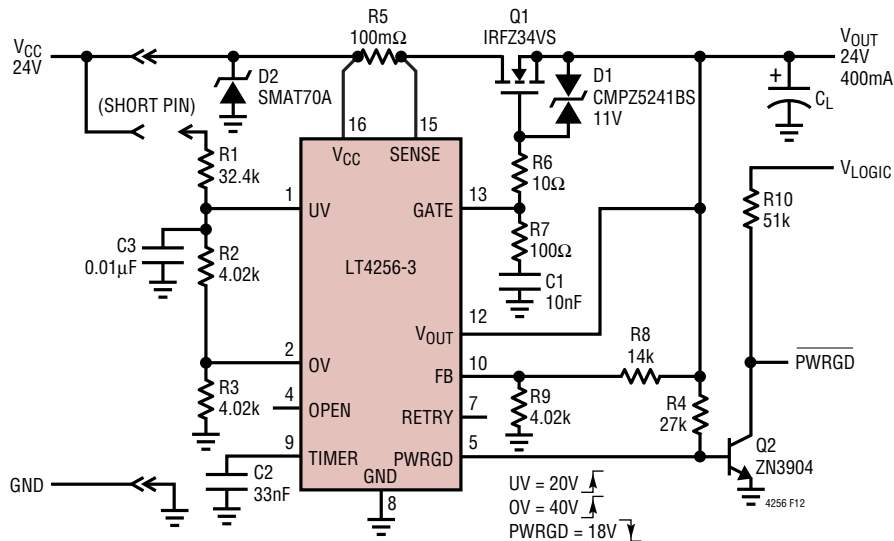

Figure 12. Active Low Enable PWRGD Application
**PWRGD** can be used to directly enable/disable a power module with an active high enable input. Figure 12 shows how to use **PWRGD** to control an active low enable input power module. Signal inversion is accomplished by transistor **Q2** and **R10**.